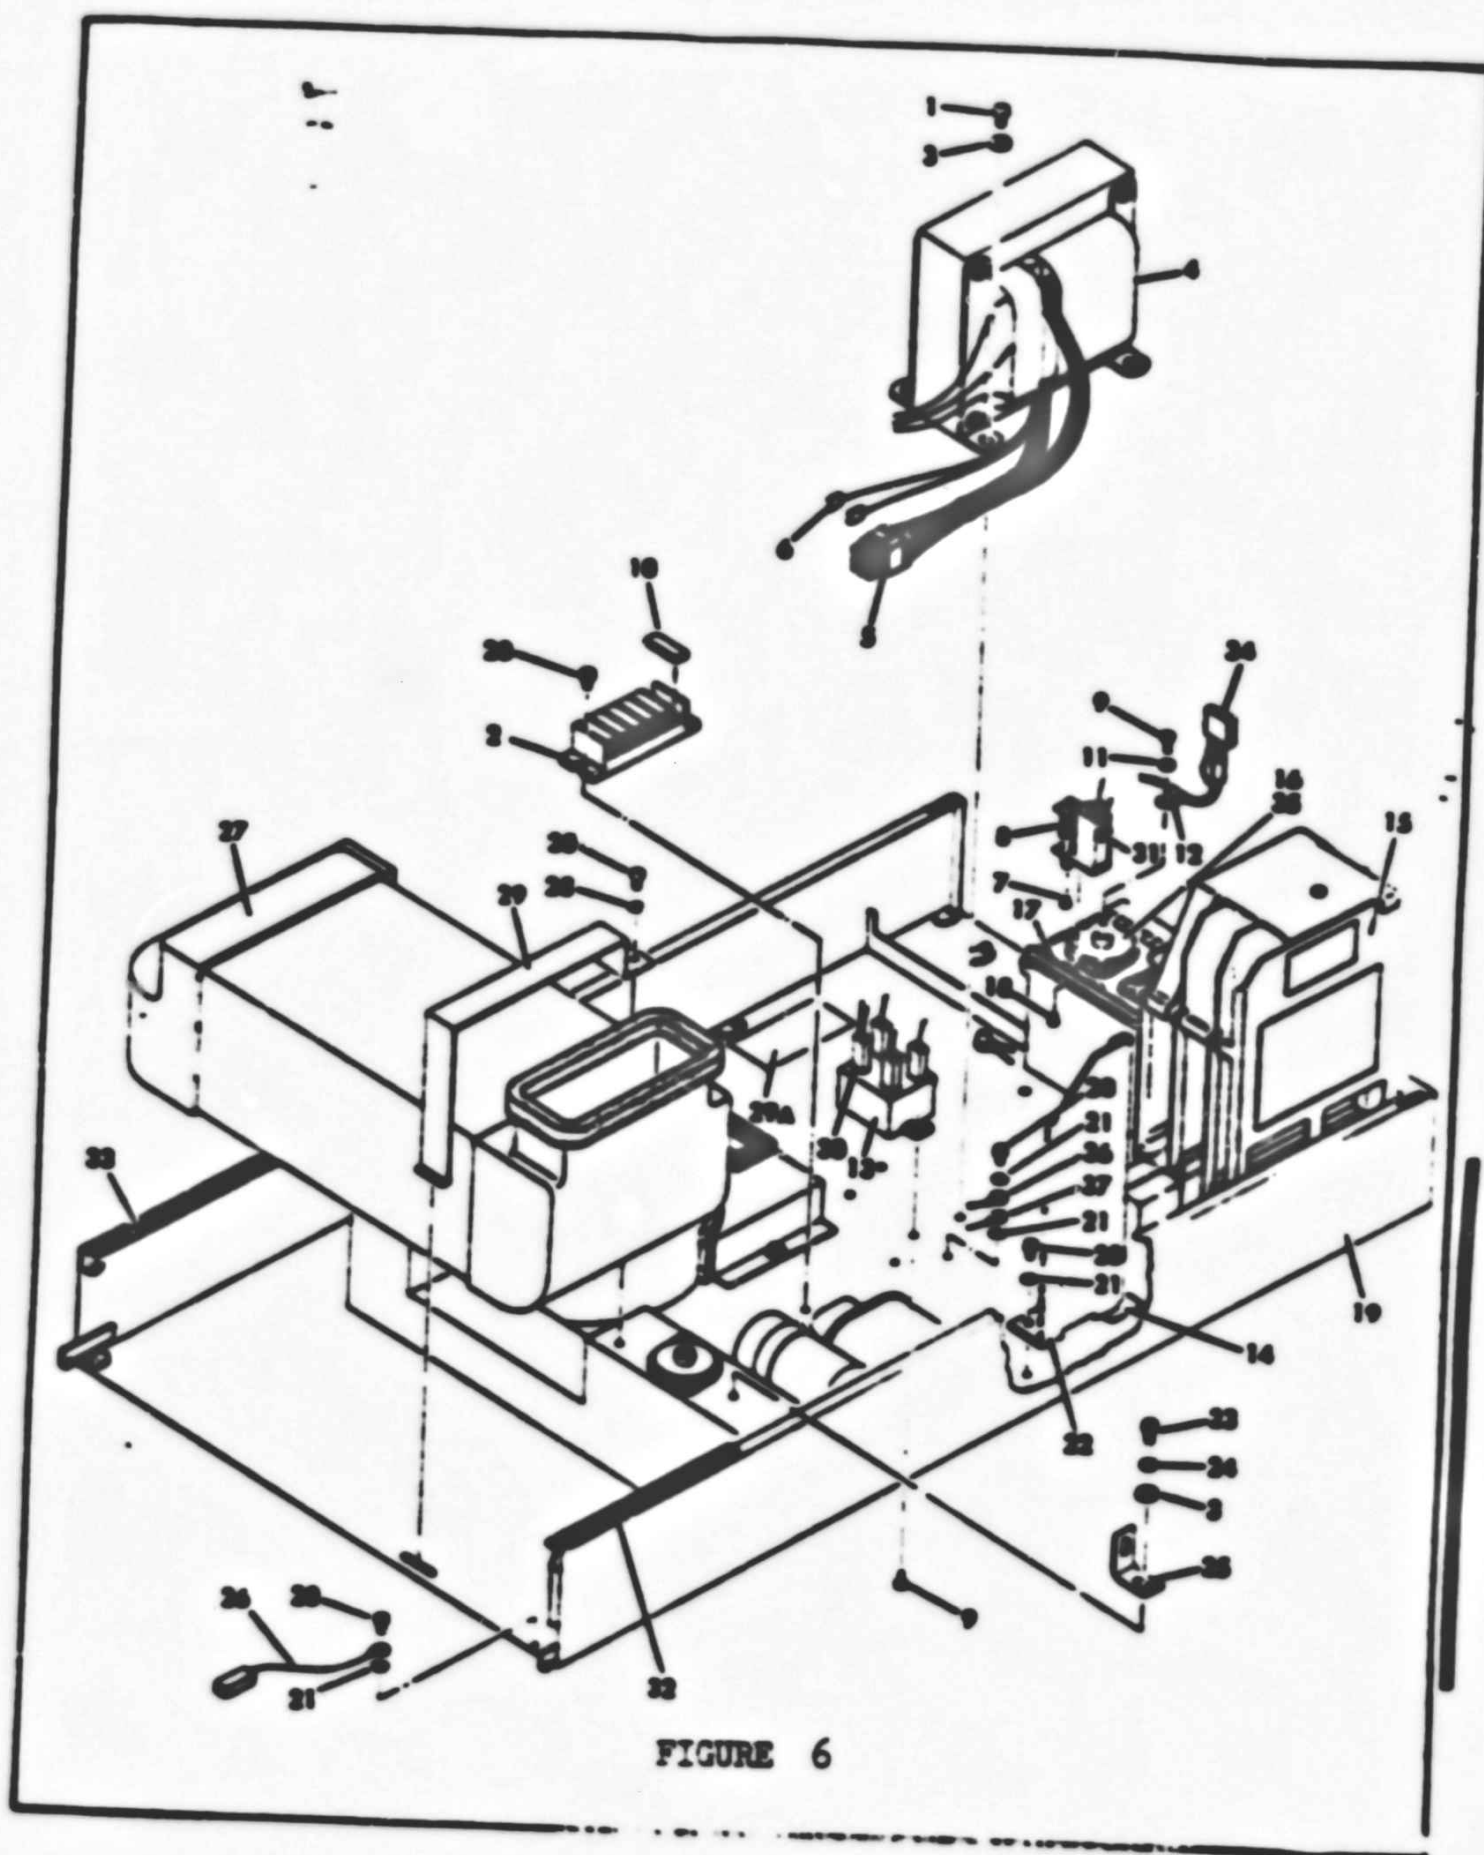

FIGURE 6
6. Locate the terminal strip TB1 in front of the 50HZ transformer on the lower deck chassis assembly. Refer to item 2 on FIGURE 6.
10. Remove the two (2) orange transformer wires connected to the tuning capacitor C8 (Item 38 Figure 6).
NOTE: The new replacement transformer supplied with EQ-01334-01 has a new transformer elbow mounting bracket with slightly longer mounting holes to allow more tolerance in transformer adjustment. Refer to FIGURE 6.